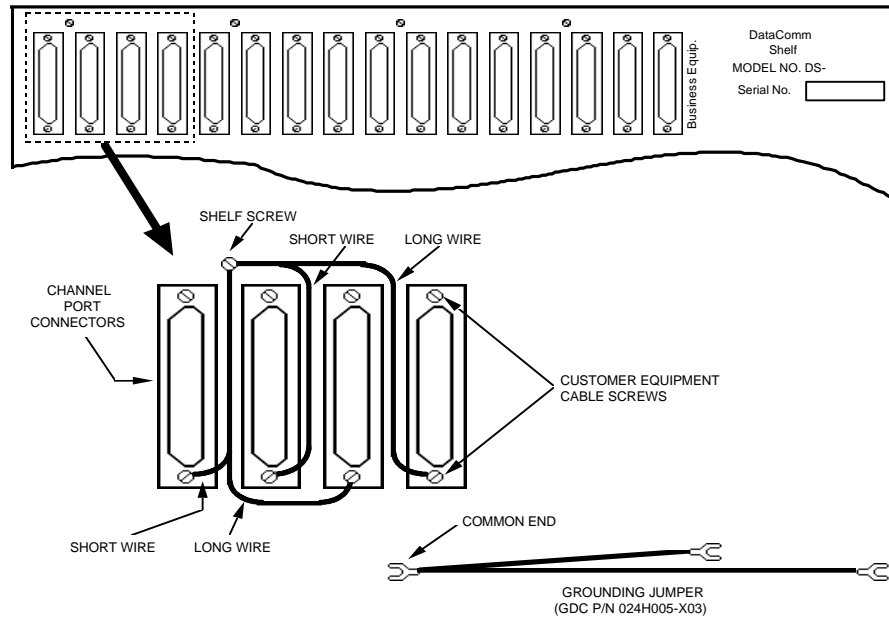

Figure 2-11 Grounding DataComm Shelf Cables
1. Securely attach the common end of the jumper to the closest shelf screw, as shown in *Figure 2-11*. You can attach two jumpers to each shelf screw, grounding four cables.
The back panel of the DataComm Shelf has four 25-pin, female, subminiature-D connectors for management channel connection. The connectors are labeled Telephone 1 through Telephone 4, corresponding to the four card slots supported by the backplane, as shown in *Figure 2-11*. Make the management channel connection to the connector for the slot that contains the DSU base card.
The backplane, which occupies four slots (one quadrant) in the shelf, provides the connectors required to support operation of the DSU. It is shown in *Figure 2-11*.